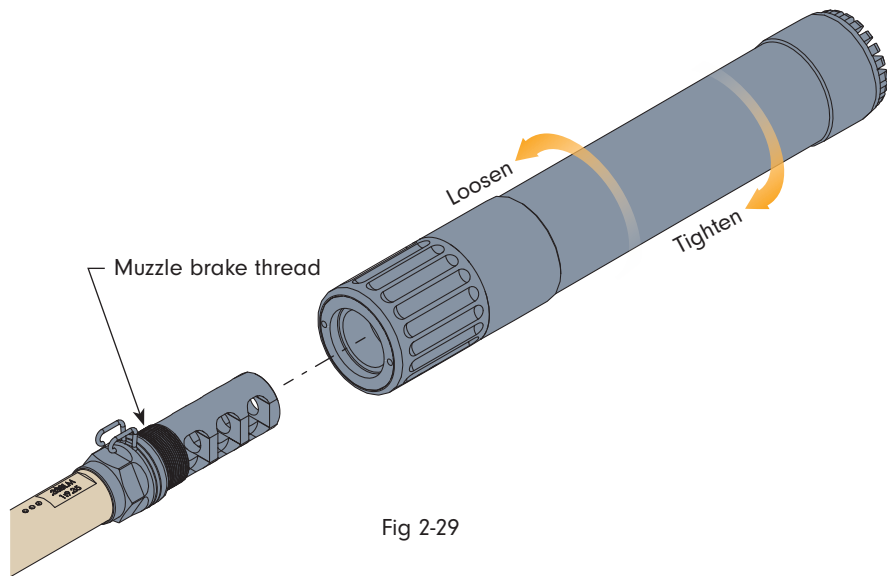

Fig 2-29
- Place the suppressor onto the muzzle brake and turn in an anti-clockwise direction (LH thread) to engage the threads (see Fig 2-29). Tighten by hand only.